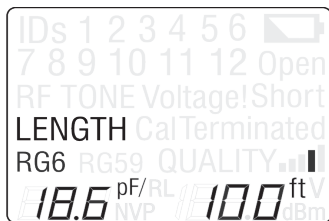

Figure 12. Measured Cable Length
2. Press the LENGTH button. The LCD display screen shows the following upon entering Length Mode (see Figure 12):